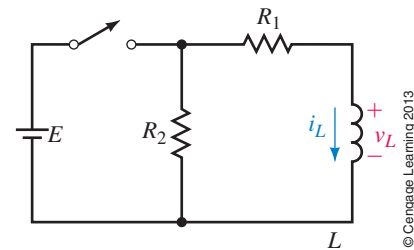
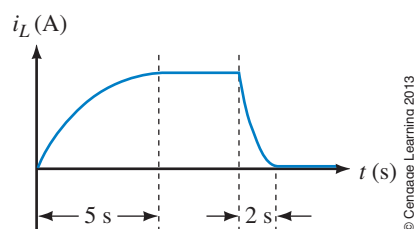

FIGURE 14-43
FIGURE 14-44
14. For Figure 14-43, $E = 80$ V, $R_1 = 200 \Omega$, $R_2 = 300 \Omega$, and $L = 0.5$ H.
15. For Figure 14-43, $R_1 = 20 \Omega$, $R_2 = 230 \Omega$, and $L = 0.5$ H, and the inductor current has reached a steady value of 5 A with the switch closed. At $t = 0$ s, the switch is opened.
18. For Figure 14-43, the inductor voltage at the instant the switch is closed is 150 V and $i_L = 0$ A. After the circuit has reached steady state, the switch is opened. At the instant the switch is opened, $i_L = 3$ A and v_L jumps to -750 V. The decay transient lasts 5 ms. Determine E , R_1 , R_2 , and L .
19. For Figure 14-43, $L = 20$ H. The current during buildup and decay is shown in Figure 14-44. Determine R_1 and R_2 .
20. For Figure 14-43, when the switch is moved to energization, $i_L = 2$ A ($1 - e^{-10t}$). Now open the switch after the circuit has reached steady state and redefine $t = 0$ s as the instant the switch is opened. For this case, $v_L = -400 \text{ V}e^{-25t}$. Determine E , R_1 , R_2 , and L .